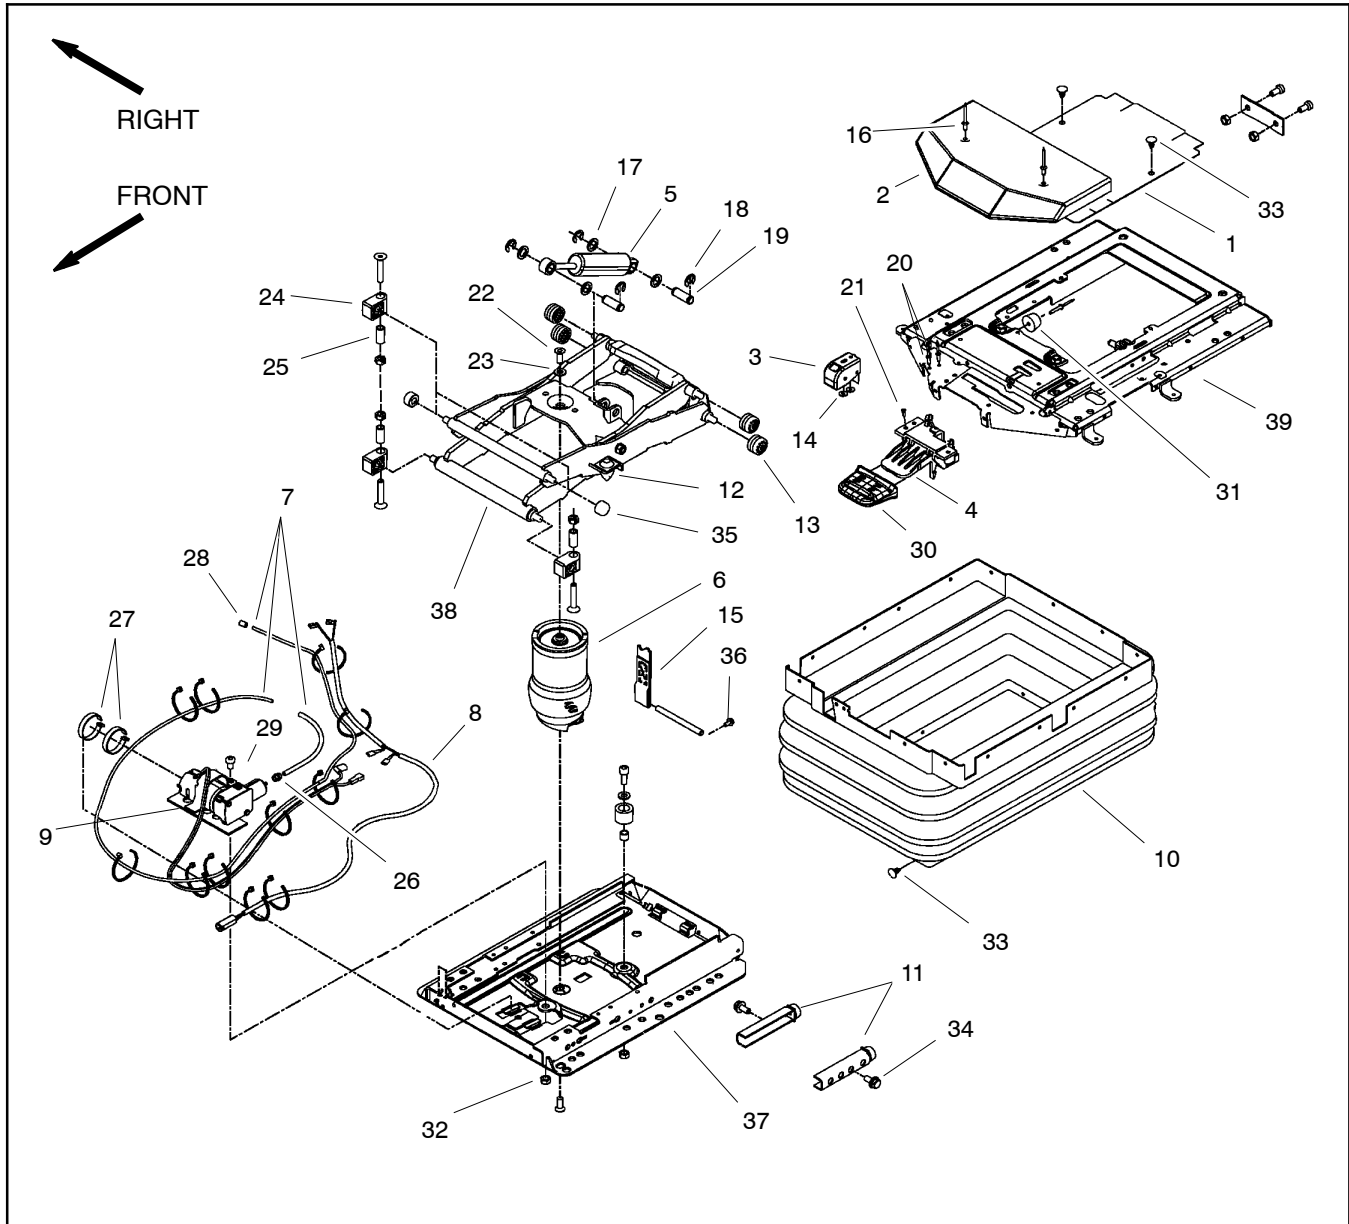
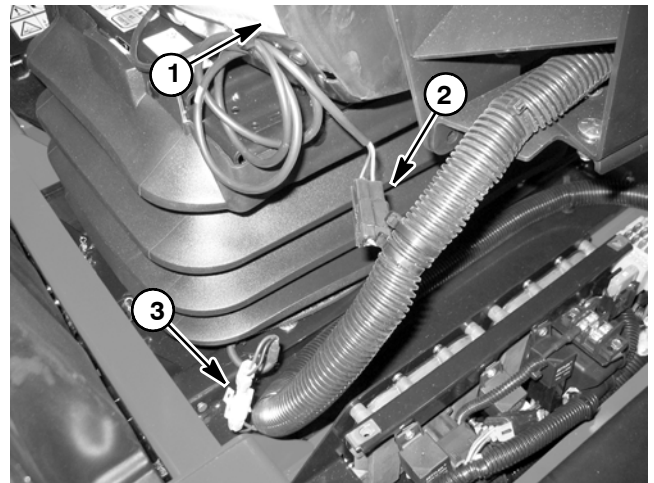
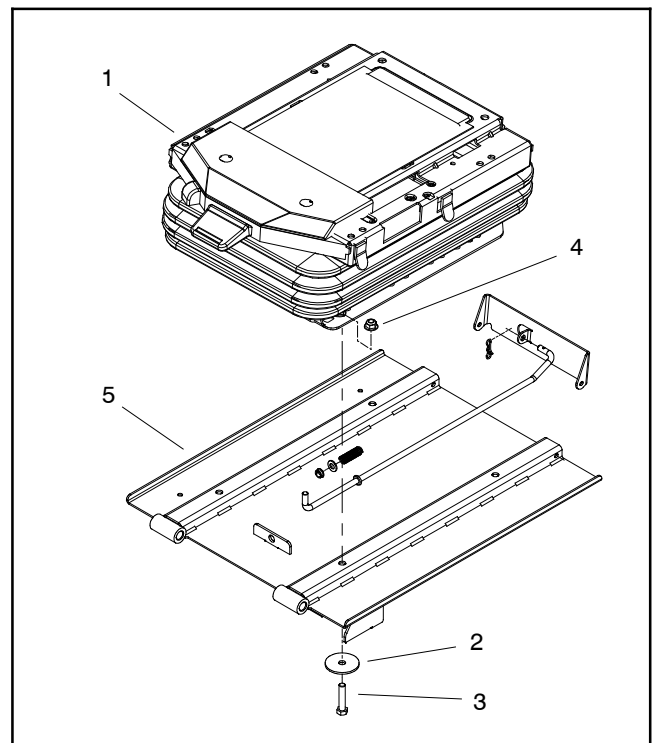

Figure 29
Figure 30
Figure 31
Disassembly (Fig. 29)
2. Disconnect seat suspension connector from machine wire harness (Fig. 30).
3. If the air spring assembly (item 6) or base plate (item 37) requires removal, remove seat suspension from seat plate (Fig. 31):
- B. Remove four (4) cap screws, flat washers and flange nuts that secure seat suspension to seat plate.
4. Remove seat suspension components as needed using Figure 29 as a guide.
Assembly (Fig. 29)
1. Install all removed seat suspension components using Figure 29 as a guide.
2. If seat suspension was removed from seat plate, secure suspension to seat plate (Fig. 31):
- B. Secure seat suspension to seat plate with four (4) cap screws, flat washers and flange nuts.
4. Make sure that seat electrical connectors are connected to machine wire harness (Fig. 30).